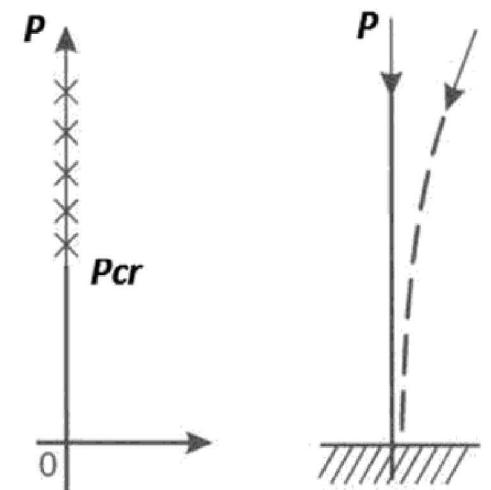

Figure 2.3. No equilibrium states
3. Absence of static equilibrium states in post-critical condition. Reaching critical load values eliminates static equilibrium states, and the structure is set in motion. This motion can be aperiodic with gradual departure from the initial equilibrium state or oscillatory with increasing amplitude. One example of such behaviour is a rod with a so-called follower load on its end (Figure 2.3). The direction of this load changes with the changing deformation state of the rod.